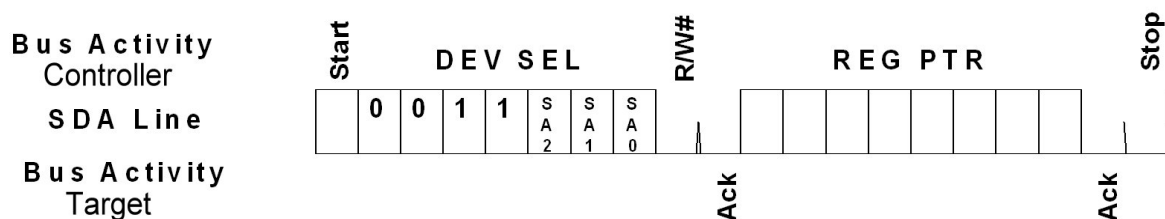
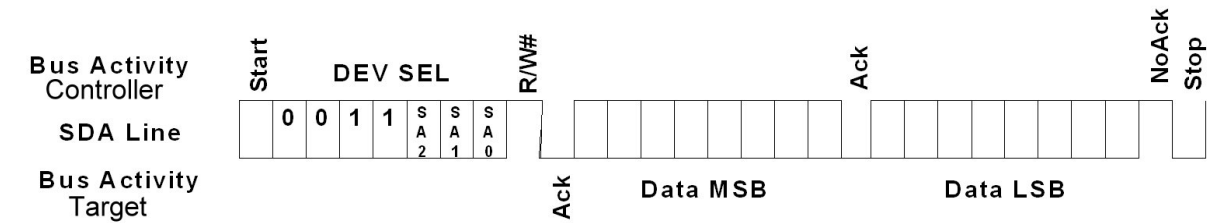
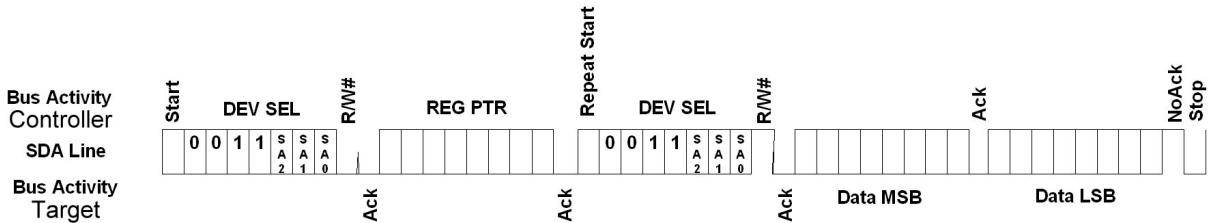

Figure 11 — I²C Write to Pointer Register
Figure 12 — I²C Preset Pointer Register Word Read
Figure 13 — I²C Pointer Write Register Word Read
2. The pointer register is loaded with the correct register address, and the data is read. The sequence to preset the pointer register is shown in Figure 11, and the preset pointer read is shown in Figure 12. If it is desired to read random address each cycle, the complete Pointer Write, Word Read sequence is shown in Figure 13.